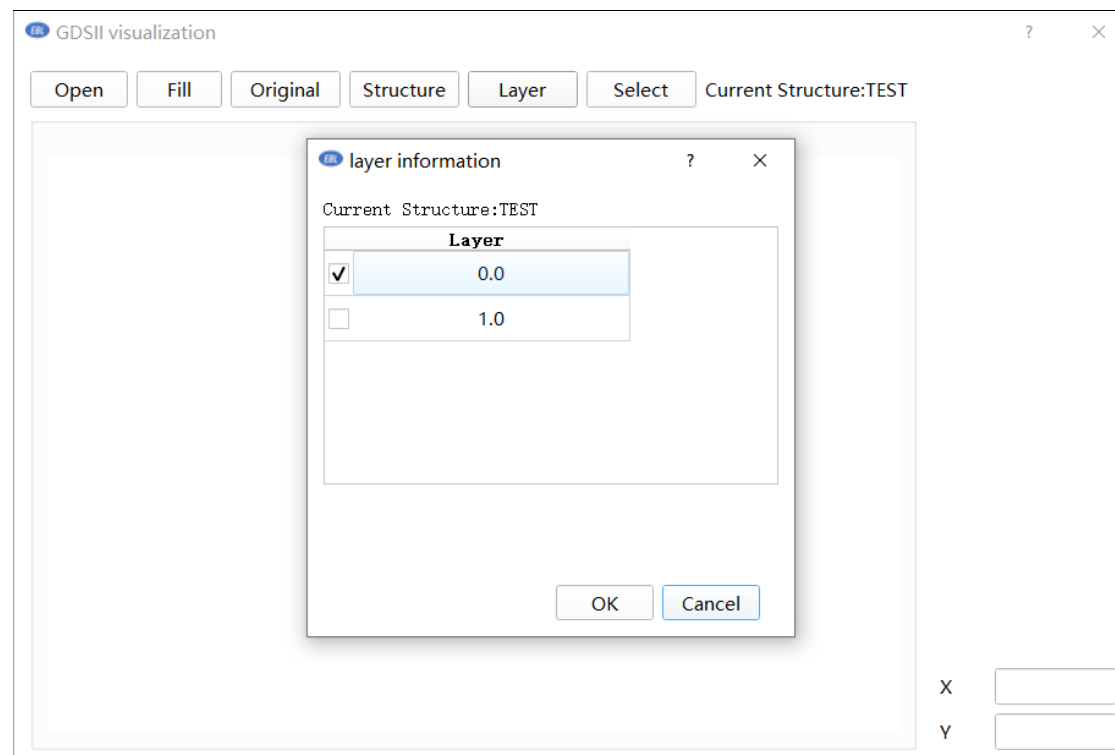

Figure 3.3.1 Select layer
- 1) "Layer" is used to display layer at the top of the interface (Figure 3.3.1). Ticking before a layer you want to view, and click "OK" to view it. (Note: Multiple layers can be selected for display)